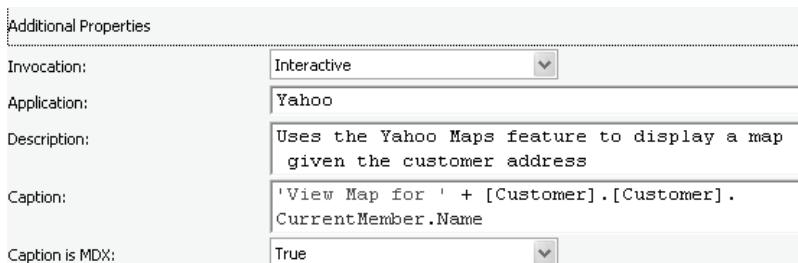

Figure 12.11 You can pass additional properties to the client application to indicate the action semantics.
7. You can pass additional properties to the client application to describe further the purpose of the action. Expand the Additional Properties panel and enter the properties shown in Figure 12.11.